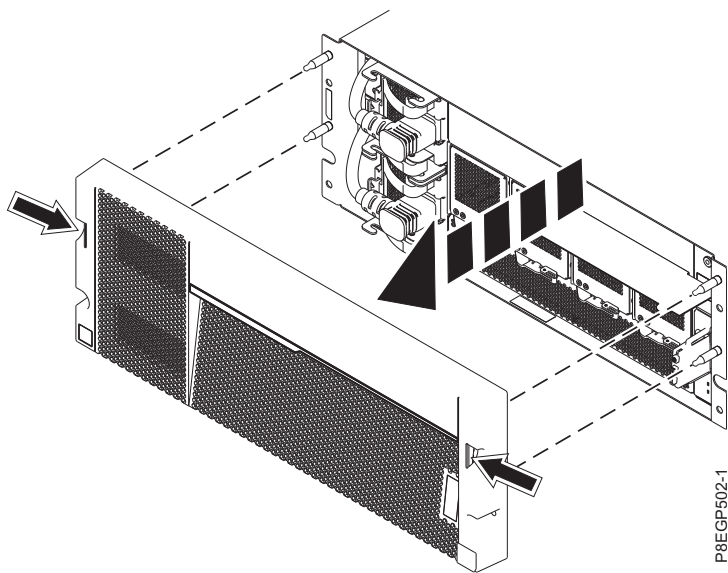

Figure 8. Removing the cover and the service information card
- b. Using the two blue touch points on each side of the drawer, pull the cover straight out to remove the cover from the front of the drawer as shown in Figure 8.